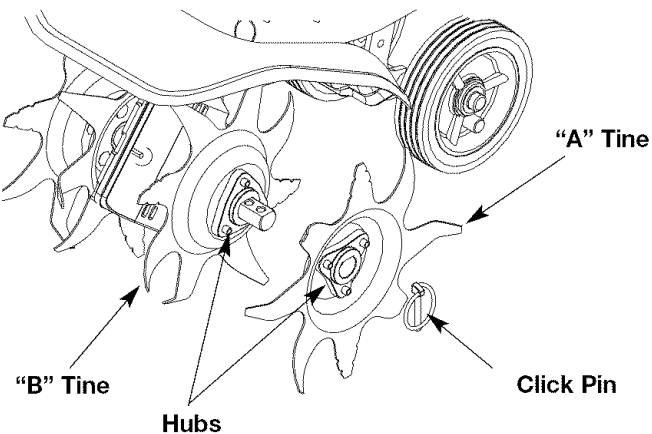

Fig. 14
- Put the On/Off Stop Control in the STOP (O) position and disconnect the spark plug wire.
- Remove the click pin from each end of the tine shaft. Slide the tines off of the shaft (Fig. 14).